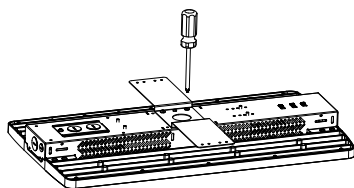

Figure 14
- Step1. Assemble the bracket onto the back of the light fixture(Figure 14).